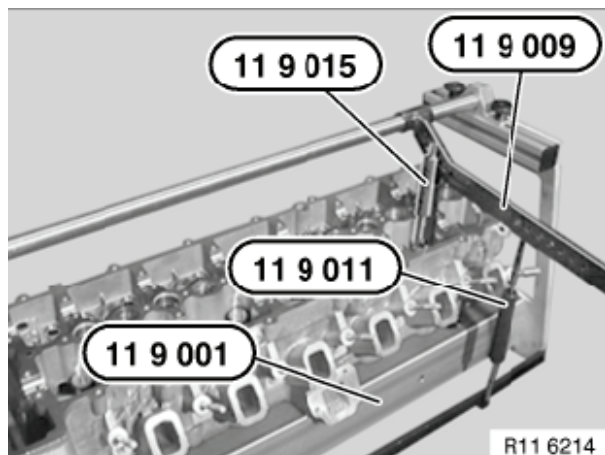

Figure 5-23
- Secure cylinder head to special tool OEM No. 11 9 001 (Figure 5-23).